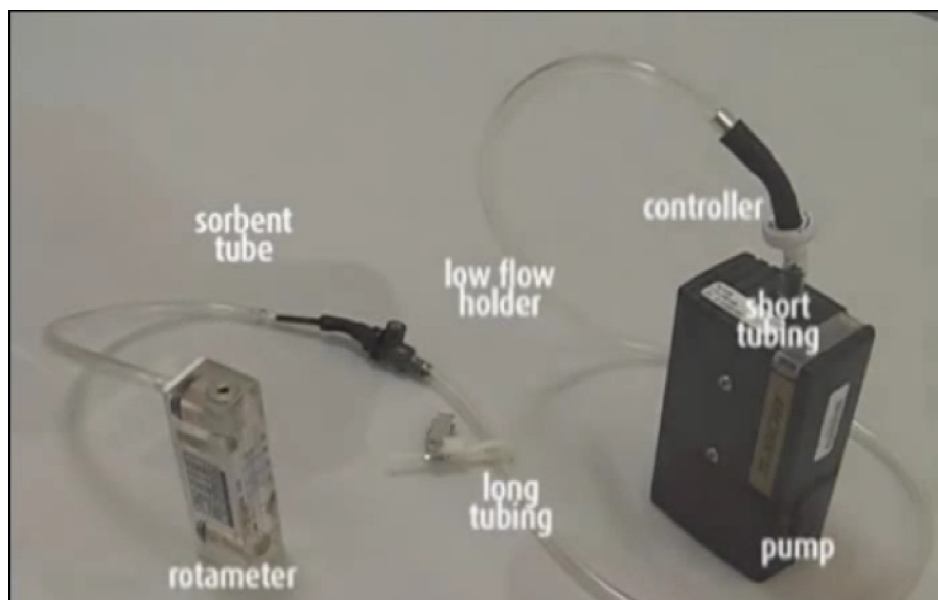
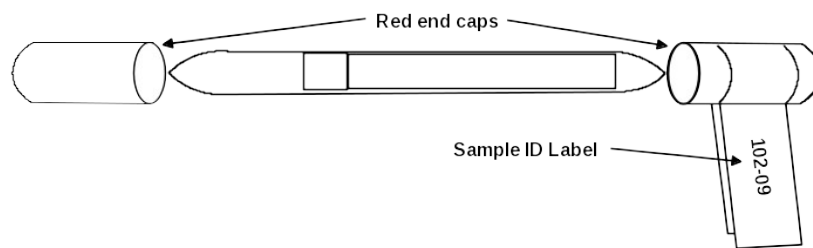

Figure T1-1. Sampling train configuration for calibration.
Figure T1-2. Sorbent tube with end caps and attached sample ID label.
<ul style="list-style-type: none"> <li>• 1 tool bucket with blue Pocket Bucket Tote</li> <li>• 1 blue ink pen</li> <li>• 1 clipboard</li> <li>• 1 black sharpie marker</li> <li>• 1 box of cleaning clothes (wipes)</li> <li>• 1 box nitrile gloves</li> <li>• 1 trash bag</li> <li>• 1 box of cleaning clothes (wipes)</li> <li>• 1 box nitrile gloves</li> <li>• 1 trash bag</li> <li>• roll of blue or green masking tape</li> <li>• 1 set jewelers screwdrivers</li> </ul>	<ul style="list-style-type: none"> <li>• Personal air-sampling pump assembly (may or may not include controller as shown in Figure T1-1)</li> <li>• Sorbent tube breaker</li> <li>• Tubing for pump (2 sections: 1 short, 1 long)</li> <li>• Rotameter Low Flow</li> <li>• Tube cover with clip</li> <li>• Quick start guide - Rotameters</li> <li>• Quick start guide low rate Set-up</li> <li>• Charger for pump</li> <li>• clothing clip with loop (allows tubing to side through it)</li> </ul>
**(1) Target air sampling flow rate.** For the AHHS II, the optimum flow-rate of air through the sorbent tube used to capture formaldehyde from the air is 1.5 liters per minute (LPM). This rate is at or near the maximum capability of the personal air sampling pump.
**(2) Sampling train configuration for flow-rate calibration checks.** The sampling train used to collect check calibration of the pumps is shown in Figure T1-1: a long tube coming out of the pump is connected to a (low flow) tube holder and is fed through a clothing clip; the tube holder is connected to an opened ended sorbent tube (arrow on tube points toward the
- (3) **Charging of pump.** All pumps will be fully charged and maximum flow rates checked/adjusted prior to shipment to the field in the technician's equipment [Kit (X)] within a bag labeled "Equipment for T1". The sampling train system (pump, tubes, holders, sorbent tube for calibration at QT, and rotameter) will be completely assembled as shown in Figure T1-1 using an "office calibration only sorbent tube". The Technician must ensure that they keep these pumps fully charged while not in use so that they will be ready when needed. This includes charging them between DUs as opportunities arise to do so.
- (4) **Sampling train configuration for sample collection.** The sampling train used to collect a formaldehyde sample is the same as that used for calibration except that the rotameter and the section of tubing connecting it to the sorbent tube are removed and replaced by a cover cap over the sorbent tube to protect the Interviewer (who will be wearing the sampling train) from the sharp edges of the open ended sorbent tube. The cover cap has a clip on it so it can be easily fastened to the Interviewer's clothing.
- (5) **Breaking open the end of the sorbent tubes.** Use gloves when handling media. Sorbent tubes containing the media used to absorb the formaldehyde are sealed in glass and the ends must be broken open to a diameter of at least 1/2 the total diameter of the outside of the sorbent tube. This is done by placing each end of the tube into the sorbent tube breaker and twisting (rotating) them back and forth a couple of times to score the outside of the tube until the tube snaps along that score line. Shake excess glass shards out of the tube breaker into the trash.
**(6) The three categories of sorbent tubes.** All sorbent tubes come with 2 red caps to cover the ends when not inserted into the sampling train. They all contain the same materials and media. Labeling of the tubes is done by wrapping a self-stick label around one of the cap ends as shown in Figure T1-2: For the AHHS II, the tubes are loosely categorized into three categories:
- (b) **Field calibration only.** At least one sorbent tube per PSU is required for field calibration of the sampling train. It gets labeled using a self stick label containing the words "Field calibration only". This label is placed as shown in Figure T1-2.